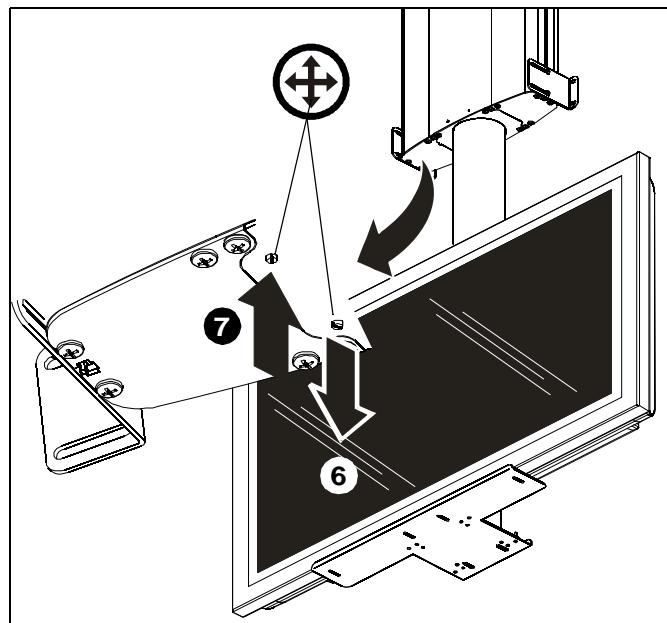
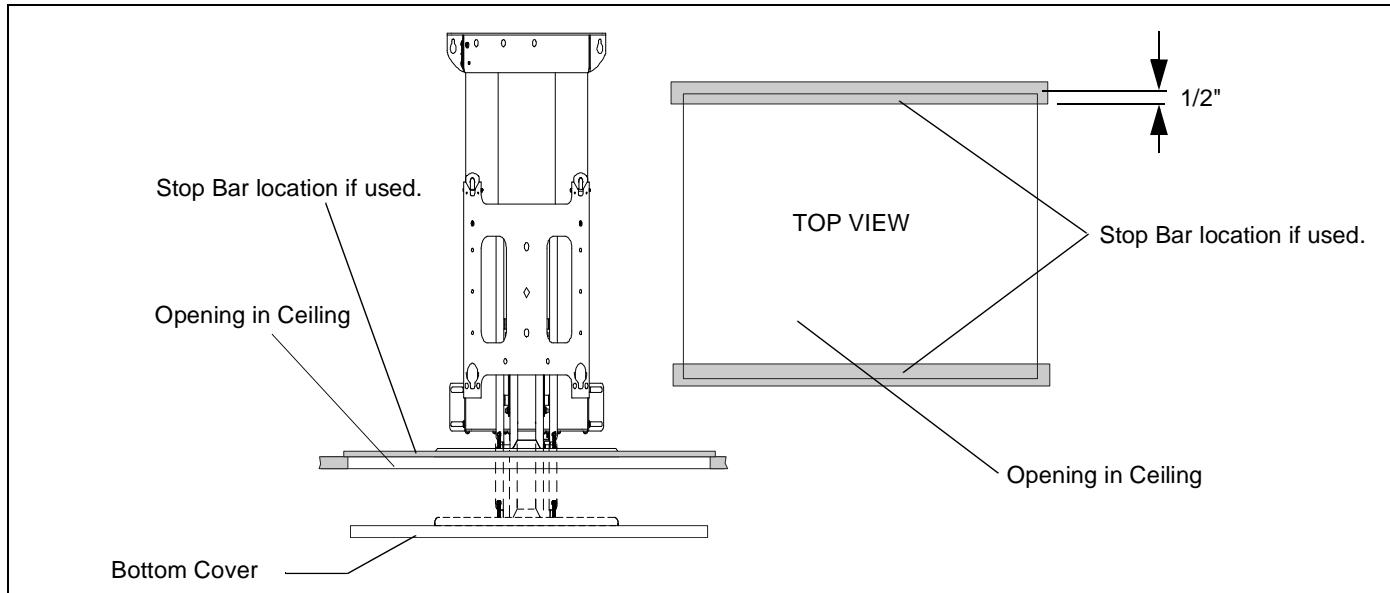

Figure 26
Figure 27
of travel must be considered when location the mount and a stop bar must be installed along the top edge of the opening in the ceiling. The stop bar must span the entire width of the front and back openings, and protrude outward into the opening a minimum of 1/2". See **Bottom Cover Location Adjustment** section and (See figure 27)
There is an upward travel limit adjustment screw and a downward travel limit adjustment screw located on the top right hand side of the mount. (See figure 27)
8. Adjust travel until bottom cover is flush with ceiling. (See figure 26) and (See figure 27)